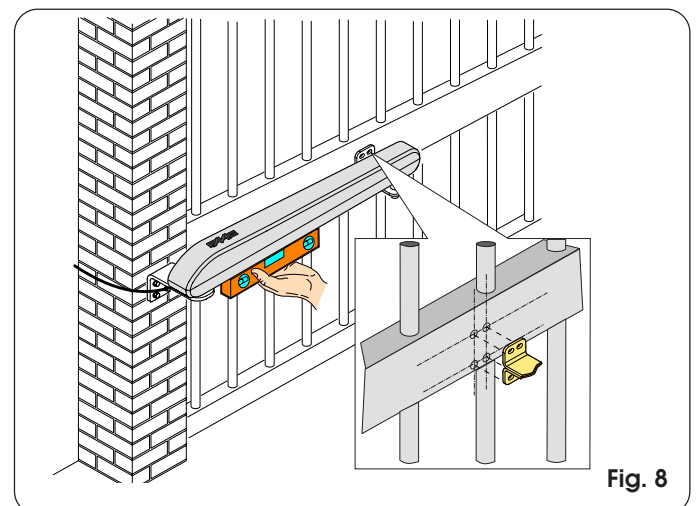

Fig. 8
- Rest the fitting on the leaf and mark out the fixing points checking if the operator and the fitting are perfectly horizontal (Fig. 8).